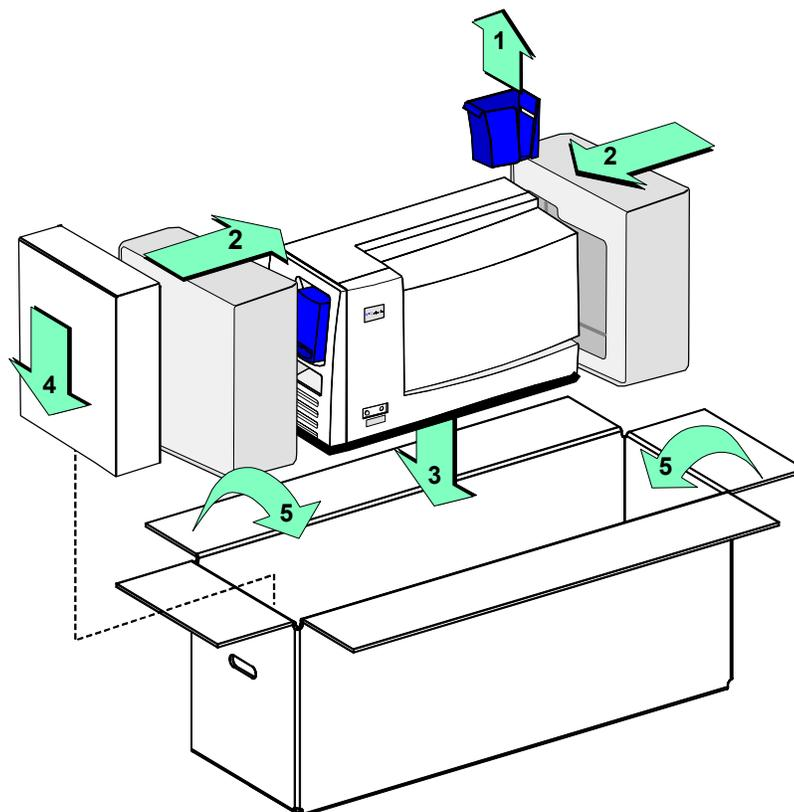

Figure 5-5: Pack a Magna printer for shipping
- 9 Remove the card output stacker (step 1 in Figure 5-5) from the printer and place it in the accessories box.
- 11 Place the foam shipping supports on the front and back of the printer (step 2 in Figure 5-5) in the printer carton.
- 12 Place the printer in the shipping carton (step 3 in Figure 5-5).
- 13 Place the accessories box along the end of the shipping cushion, near the front of the printer (step 4 in Figure 5-5).
- 14 Close the shipping carton (step 5 in Figure 5-5).